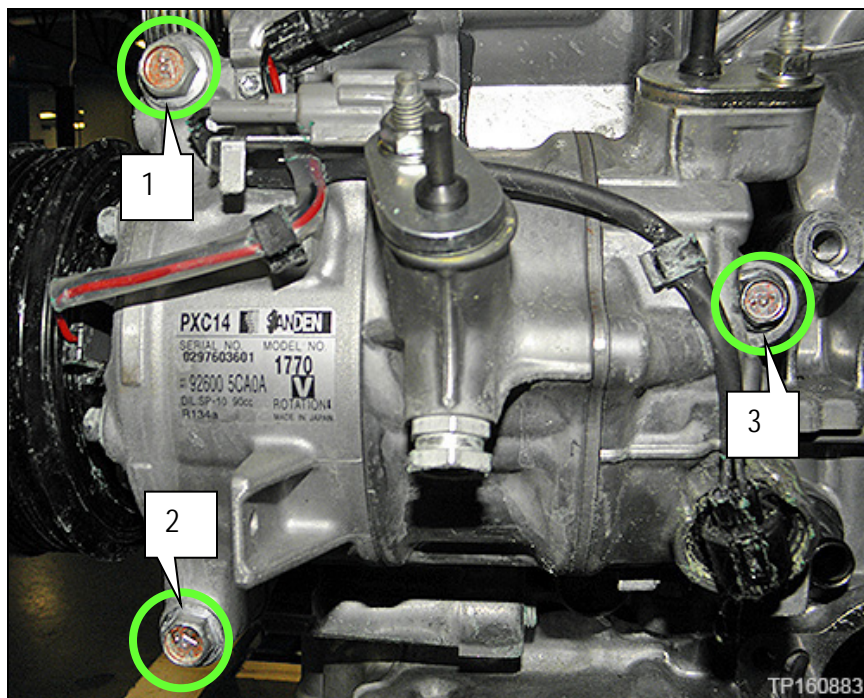

Figure 11
12. While holding the A/C compressor toward the rear of the vehicle, tighten the A/C compressor mounting bolts in the order shown in Figure 11 to 5 N•m, (0.51 kg-m, 44 in-lb).
13. Torque the A/C compressor mounting bolts to 30.9 N•m, (3.2 kg-m, 23 ft-lb) in the order shown in Figure 11.